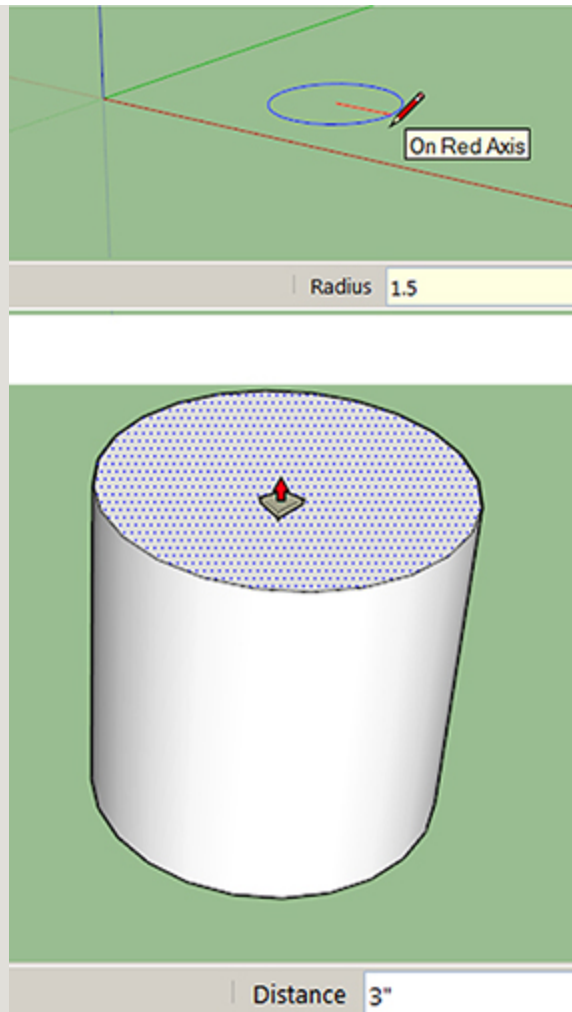

Figure 3-75 Make a cylinder.
1. Make a cylinder (Figure 3-75). Draw a 1 1/2" radius circle, and push/pull it up to 3".